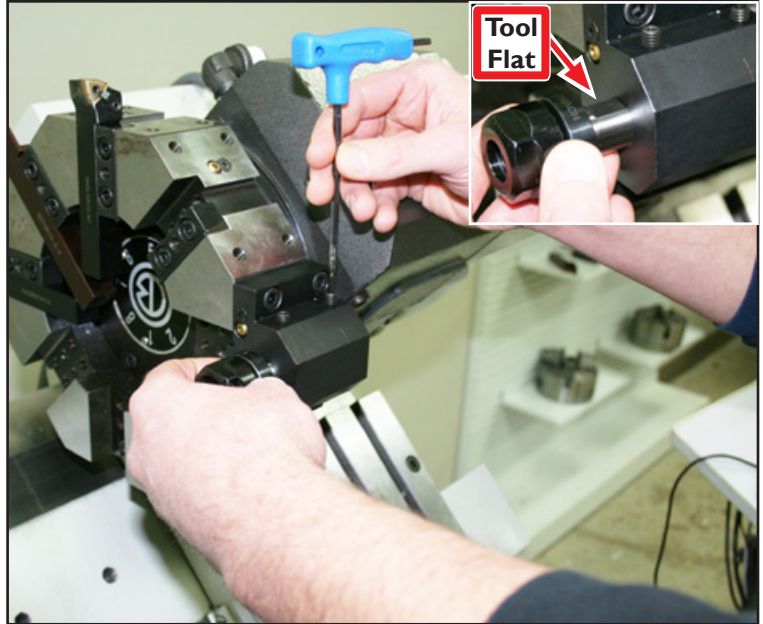

Figure 36
6. If installed, remove two (tool retaining) Set Screws from Boring Bar Holder as shown in **Figure 36**; set aside for later use.
14. Screw two Set Screws (removed earlier) loosely into Boring Bar Holder and insert 3/4" tool; Tool Flat should face Set Screws. Tighten snugly (see **Figure 36** and inset).